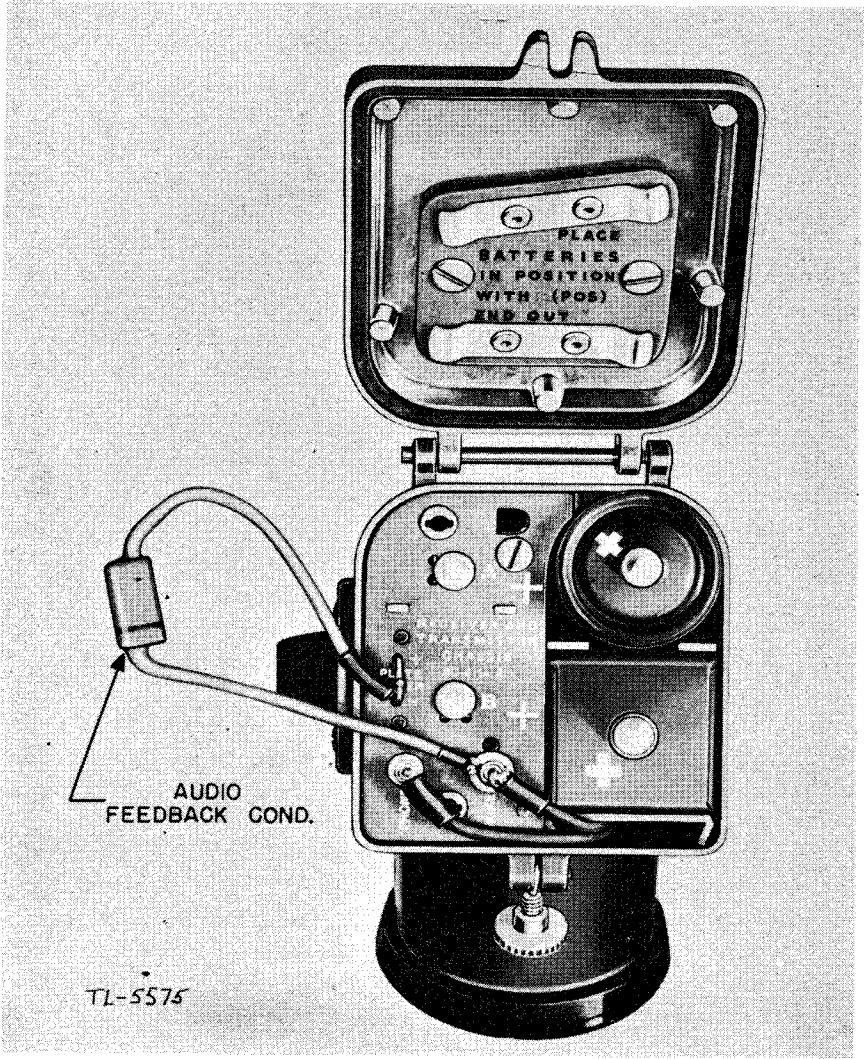

FIGURE 21.—Connections for self-modulation.
(2) If another such set is available, but is not of the correct carrier frequency, it can be made to operate at the correct frequency by inserting the correct crystal and proper antenna and tank coils.
(3) In order to preset one set, it will be necessary to convert the other set into a modulated signal generator. This may be done by simply putting the set in the transmit position and placing a buzzer near the microphone; if a buzzer is not available, the carrier can be self-modulated by converting the audio amplifier in the set into an audio oscillator. This circuit change can be made easily by placing a capacitor of $100\mu\text{mf}$ between the microphone plug and the plate current meter jack on the terminal board of the chassis. This capacitor will provide enough feedback between the input and output to cause the audio amplifier to go into oscillation. When the radio set is put into the transmit position, an audio note will be heard in the earphone of the unit and a signal will be radiated, modulated by this audio tone. A special capacitor designed for this purpose is supplied with test equipment IE-15-A. (See figs. 21 and 22.) To simplify connections, one lead of the capacitor is tipped with a spade lug and the other lead is tipped with a plate current meter jumper. The spade lug has a small hole in it for the microphone plug and is designed to fit between the microphone plug and the microphone jack on the terminal board. The spade lug is painted green to identify it with the microphone plug, which is marked with a green spot.
(4) The plate current meter jumper connected to the capacitor replaces the plate current jumper in the set.
(1) First remove the chassis from the housing of the set.
(2) Select a crystal of the exact frequency to which the other set is to be preset, and place it in the transmitter crystal socket. Select another crystal which is 455 kc higher in frequency and place it in the receiver crystal socket. Select the proper antenna and tank coils and insert them into their respective sockets.
(3) Place the set into the test housing and connect the test harness as described in paragraph 71.
(4) With the antenna rod fully extended, grasp the test case and put the set in the transmit position and with a small screw driver adjust the transmitter tank adjustment screw for minimum reading of the plate current meter.
(5) Disconnect the harness from the chassis and remove the chassis from the test housing. *Do not forget to replace the plate current meter jumper.* Put the set into its own housing and connect in the audio feedback capacitor. (See figs. 21 and 22.) Place the spade lug of the capacitor lead between the microphone jack and the micro-